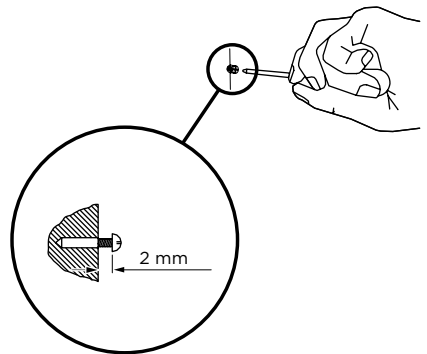
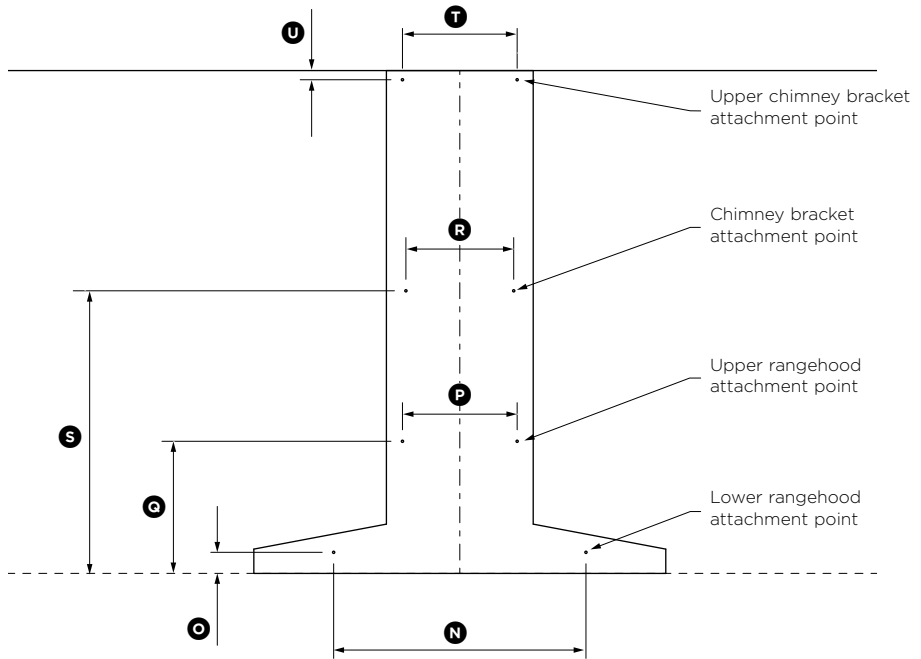

Fig.1
Fig.2
- Ensure the voltage (V) and the frequency (Hz) indicated on the serial plate match the voltage and frequency of the installation site.
② Attach chimney brackets and rangehood mounting screws to the wall
- Attach the chimney bracket and upper chimney bracket (if using the upper chimney) in the locations shown in Fig. 2 and 3. Use the 30 mm screws (and expansion plugs if attaching to masonry).
- Attach the upper rangehood mounting screws in the locations shown in Fig. 2 and 3. Using the 30 mm screws (and expansion plugs if attaching to masonry). Ensure that there is a 2 mm gap between the screw head and the wall (see Fig 1).